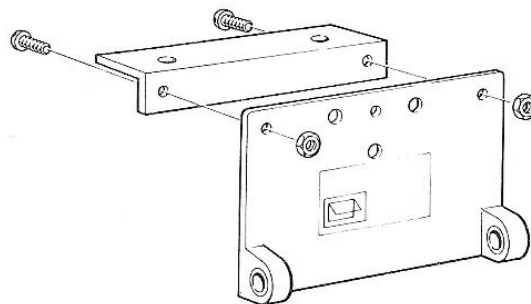

Fig.10
3. Fasten the special long angle bracket to the flat bracket using the other two small round head screws and nuts from the screw pack. **See Fig 10.**